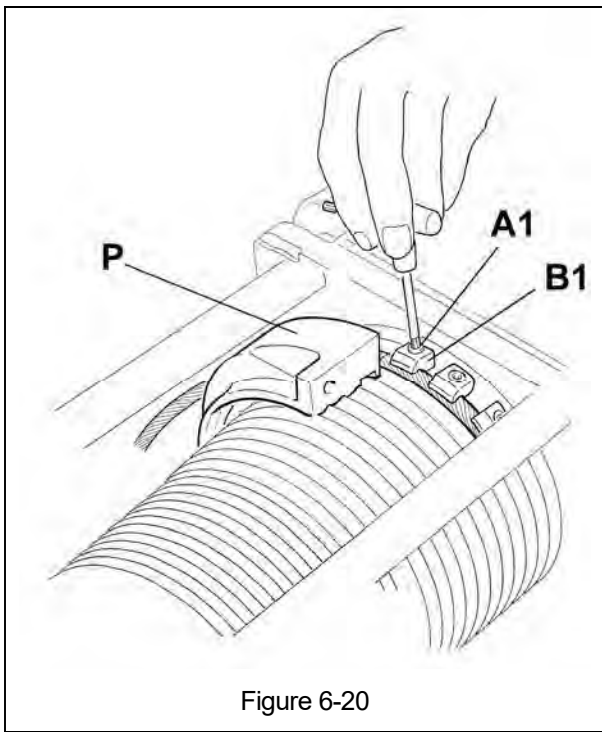
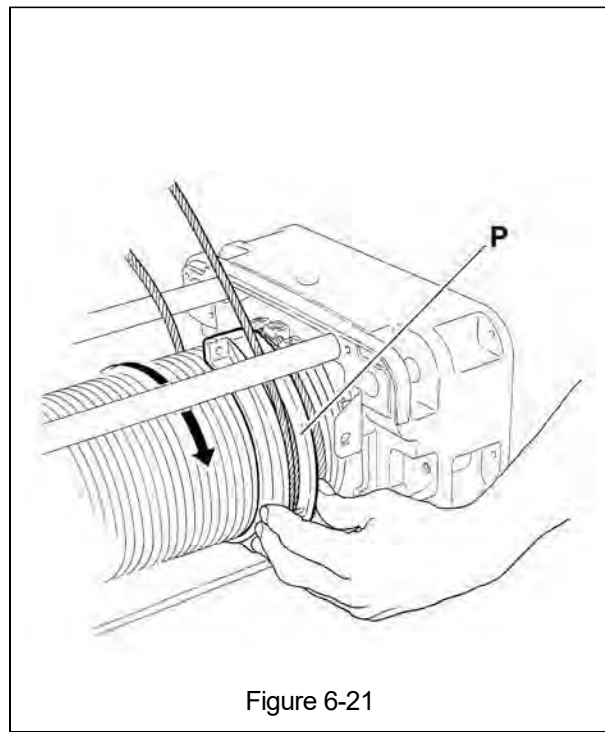

Figure 6-20
Figure 6-21
- 14) Loosen the Screws (A1) of the Wire Rope Clamps (B1) and take out the Wire Rope and Ring Half (P) (see Figure 6-20). For 4/1 Ultra-Low headroom versions it is necessary to rotate the Ring Half (P) over the top of the drum to remove it from the hoist (see Figure 6-21).